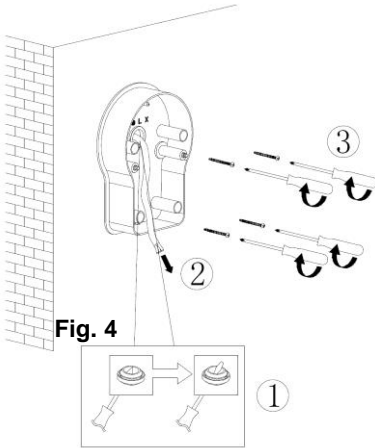

Fig. 4
6. Using the point of a bradawl or screwdriver, make a small hole in the centre of the cable grommet and feed the cable and insulation through the grommet (fig. 4).
7. Check the fixing bolts are still in position, before securing the back plate to the wall using the screws supplied (fig. 4).